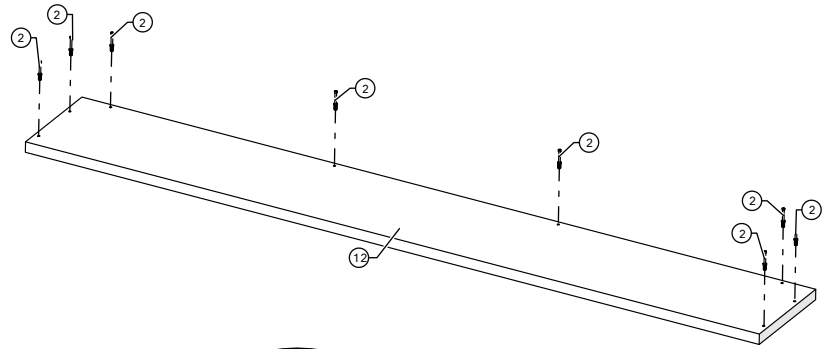

Figure 17
- 22.** Screw in combi dowels into the pre-drilled 5 mm countertop holes (Figure 17).